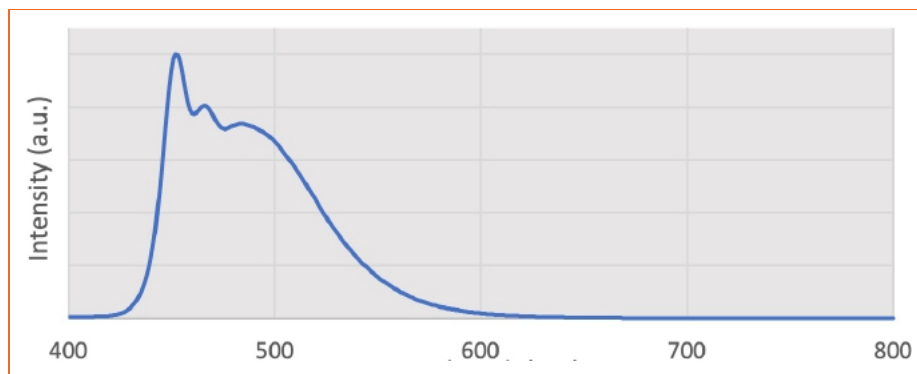

Figure 1: *Nichia Cyan* spectrum, excited SAE phosphor by blue chip.
**Figure 1.** This latest development in LEDs has the advantage of having negligible emission at wavelengths longer than 600 nm, therefore the MR value of the *Nichia*